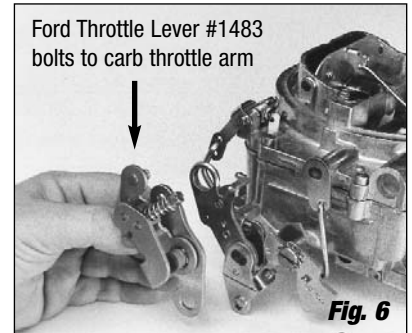

Fig. 6
1. Compare the throttle arm of your new carburetor with the old one to be sure that all required linkages will hook up. Install the proper throttle and transmission linkage for your particular application. Throttle stud is removable and must be installed in the proper location. Chrysler vehicles with automatic transmission will require Throttle Lever Kit #1481. Ford vehicles with automatic transmission and cable linkage will require Throttle Lever Kit #1483 (See Fig. 6) and Throttle Cable Plate Kit #1490 (for 289-302), #1491 (for 351-W), #1493 (for 351-C & 351-M/400), or #1495 (for 429/460).